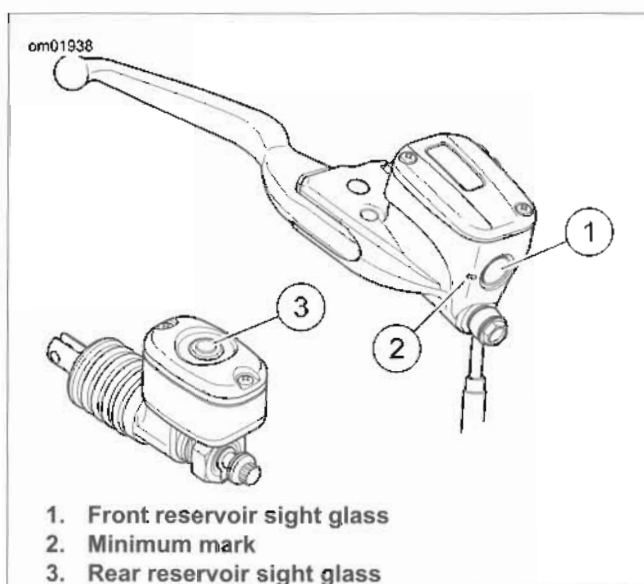

Figure 1-29. Brake Fluid Reservoirs
2. See Figure 1-29. View reservoir sight glass.
- a. **Front:** Verify that fluid is visible in the sight glass (1). If the fluid level is below the minimum mark (2) or not present, see 2.18 BLEEDING BRAKES.
- b. **Rear:** Verify fluid presence. The sight glass (3) appears dark when fluid is present. If the sight glass is clear, see 2.18 BLEEDING BRAKES.